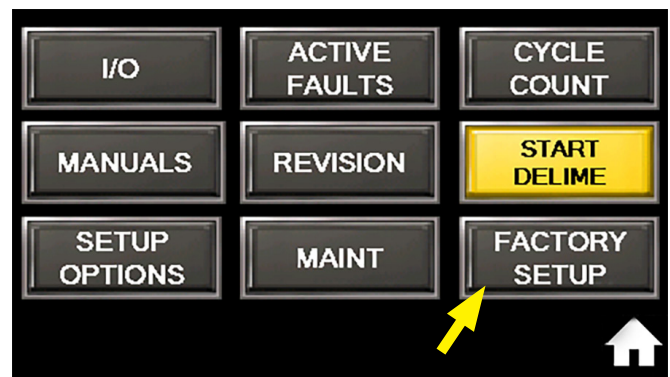

Fig. 61 - Factory Setup not available for supervisors.
1. FACTORY SETUP CAN ONLY BE ACCESSED BY FACTORY PERSONNEL, (Fig. 61).